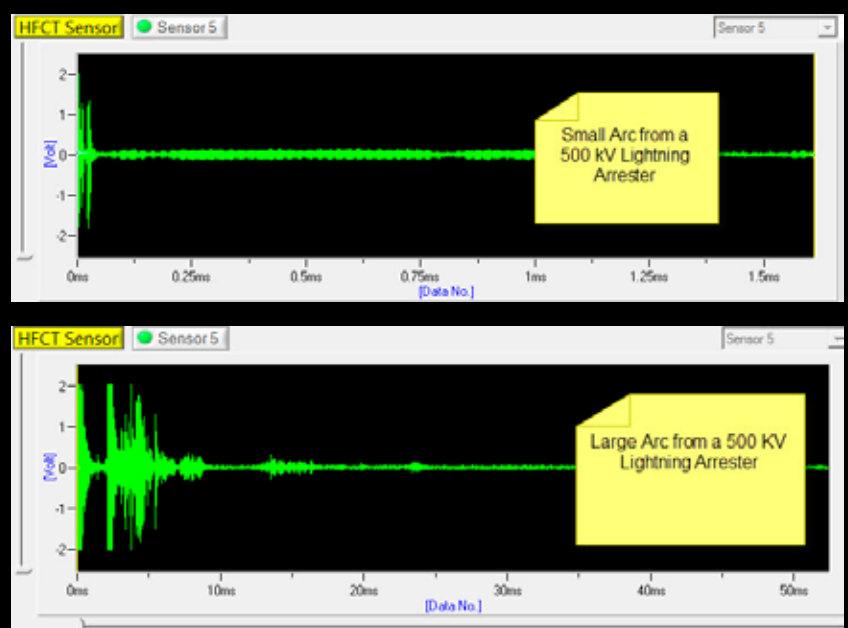

Figure 7. Screenshots of a 500 kV lightning arrester arcing at full voltage
The two screenshots in Figure 7 indicate internal arcing in a 500 kV lightning arrester (LA), energized at full voltage, and the test set is in the HFCT trigger mode. Twenty minutes is the agreed-upon test time that was determined by years of experience.